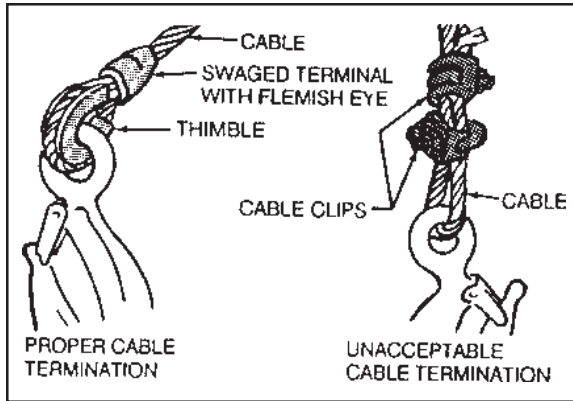

Figure 6-1
1. Make sure the winch cable(s) show no obvious damage and that the swagged cable termination at each hook is in good condition. Cable clips are not acceptable. (See Figure 6-1.)